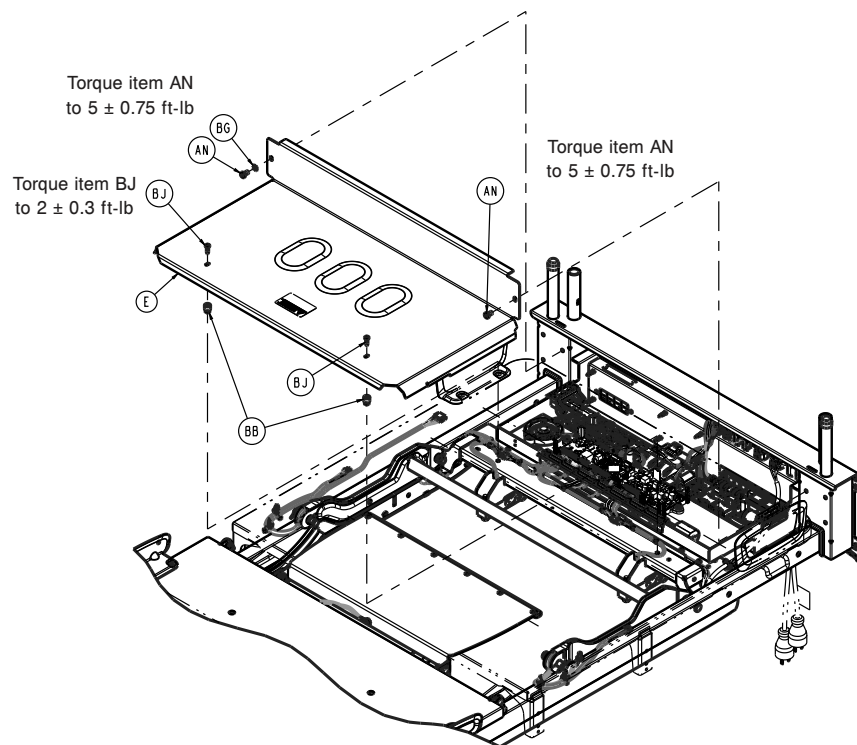

Figure 28 – Removing the cover
7. Using a T25 Torx driver, remove the two screws (BJ) that secure the litter electronics box cover (E) to the electronics box assembly (Figure 28). Save the screws.
8. Using a T30 Torx driver, remove the two screws (AN) that secure the litter electronics box cover (E) to the electronics box assembly and remove the cover (Figure 28). Save the screws and cover.
6. Using a T25 Torx driver, remove the two screws (BJ) that secure the litter electronics box cover (E) to the electronics box assembly (Figure 28). Save the screws.
7. Using a T30 Torx driver, remove the two screws (AN) that secure the litter electronics box cover (E) to the electronics box assembly (Figure 28). Save the screws and cover.
8. Using a T30 Torx driver, remove the two screws (AN) that secure the litter electronics box cover (E) to the electronics box assembly (Figure 28). Save the screws and cover.